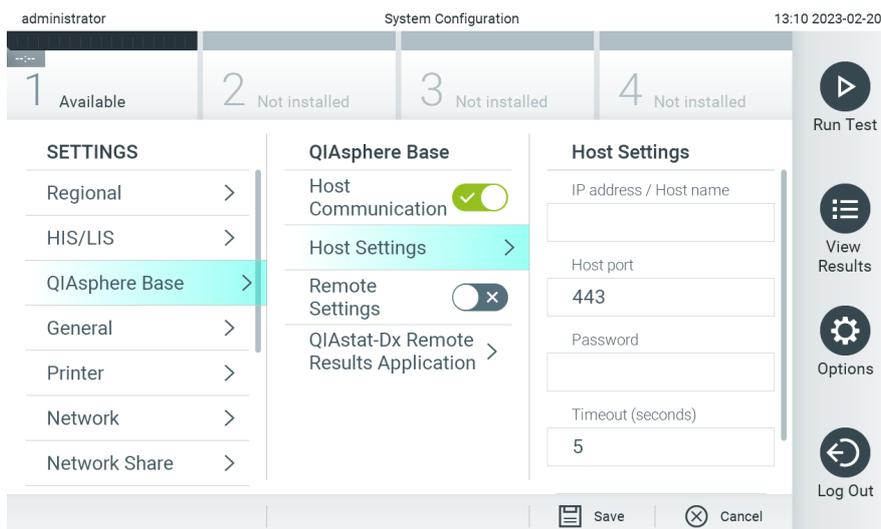

Figure 65. Configuring the QIASphere Base connection.
2. Select **QIASphere Base** from the settings list in the left column (Figure 65).